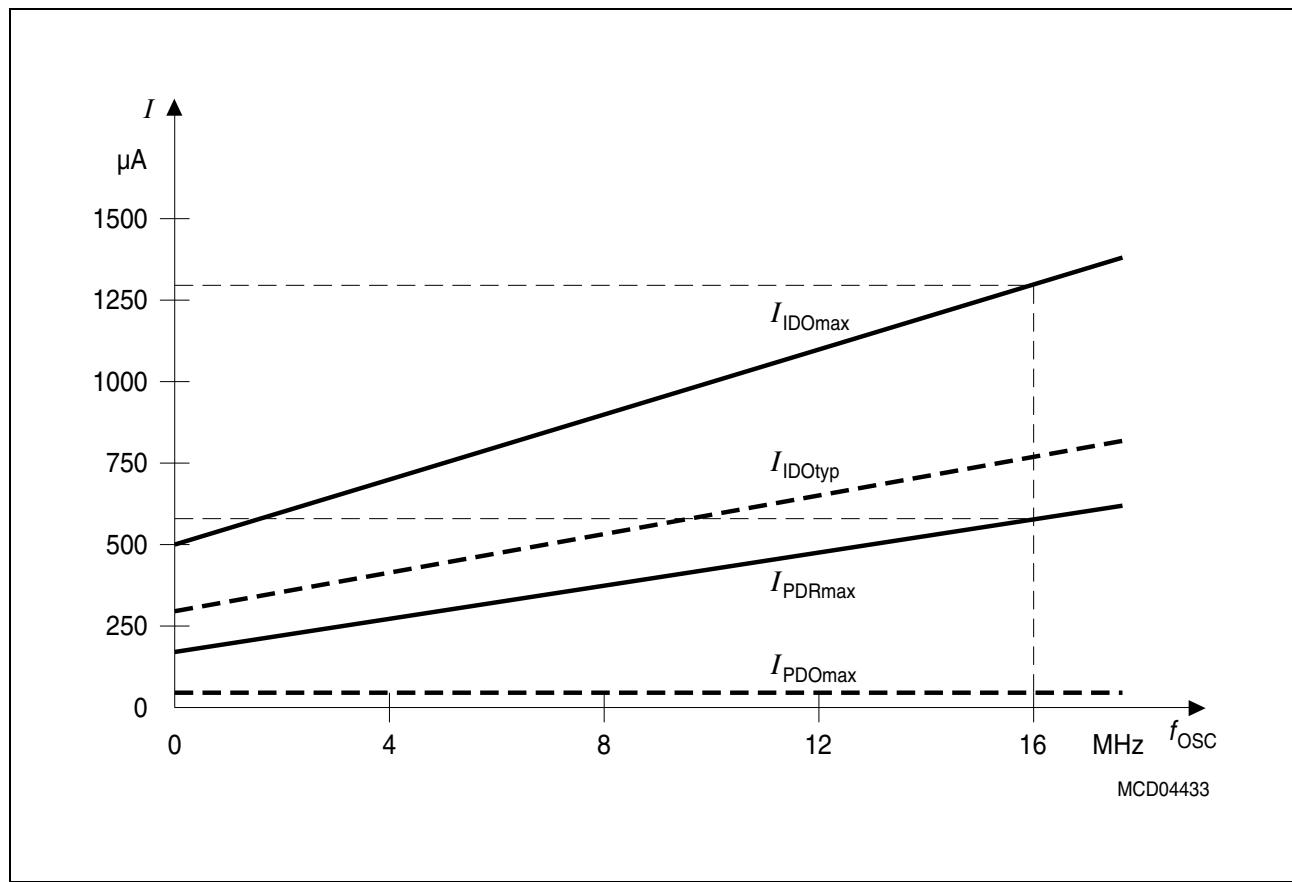

Figure 8 **Idle and Power Down Supply Current as a Function of Oscillator Frequency**
- 2) This parameter is determined mainly by the current consumed by the oscillator (see Figure 8). This current, however, is influenced by the external oscillator circuitry (crystal, capacitors). The values given refer to a typical circuitry and may change in case of a not optimized external oscillator circuitry.
- 2) This parameter is determined mainly by the current consumed by the oscillator (see **Figure 8**). This current, however, is influenced by the external oscillator circuitry (crystal, capacitors). The values given refer to a typical circuitry and may change in case of a not optimized external oscillator circuitry.